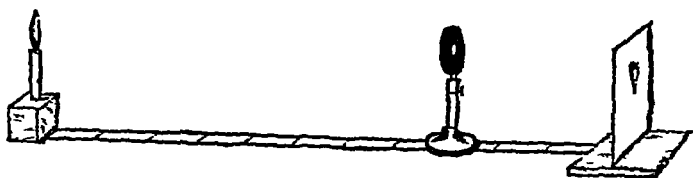

FIG 102.
**The object and the image — REAL IMAGES** Place the candle as far away as possible from the lens, and obtain the focal length of the lens, notice the small inverted image (fig 102) obtained on